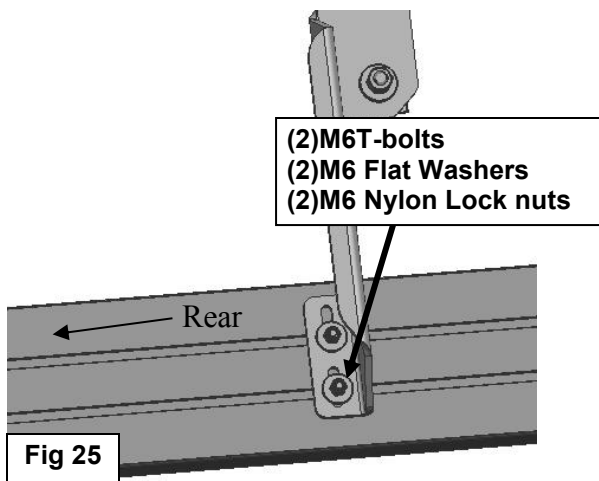

Fig 25
9. Carefully unwrap and select the Running Board. Insert (6) M6 T-Bolts into the slots in the end of the channels, (3 Bolts per channel), on the bottom of the Running Board, (**Fig. 23**). Hold the Running Board up in approximate position and slide the T-Bolts down to line up with the Mounting Brackets. Tilt the Board up at a slight angle and push back against the vehicle until the T-Bolts fit into the slots on the Brackets. **VERY IMPORTANT:** The front Bracket is very close to the slots in the front-end of the Board for the T-Bolts. Loosen the Front Bracket and push it toward the rear of vehicle so that the Bracket is at a slight angle to clear the slots for the T-Bolts, (**Fig. 24**). Secure the Board to the Brackets with (6) M6 Flat Washers and (6) M6 Nylon Lock Nuts, (**Fig. 25**). Do not tighten hardware at this time.